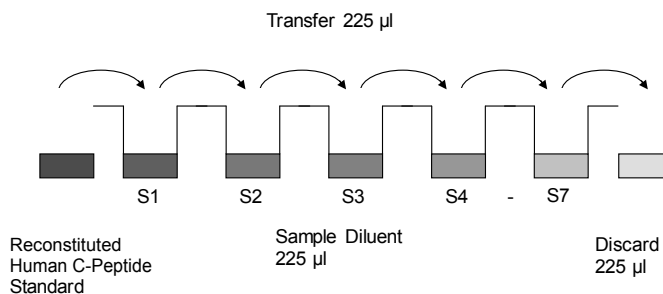

Fig. 7 Dilute standards - tubes
5. Repeat serial dilutions 5 more times thus creating the points of the standard curve (see Figure 7 on page 3).